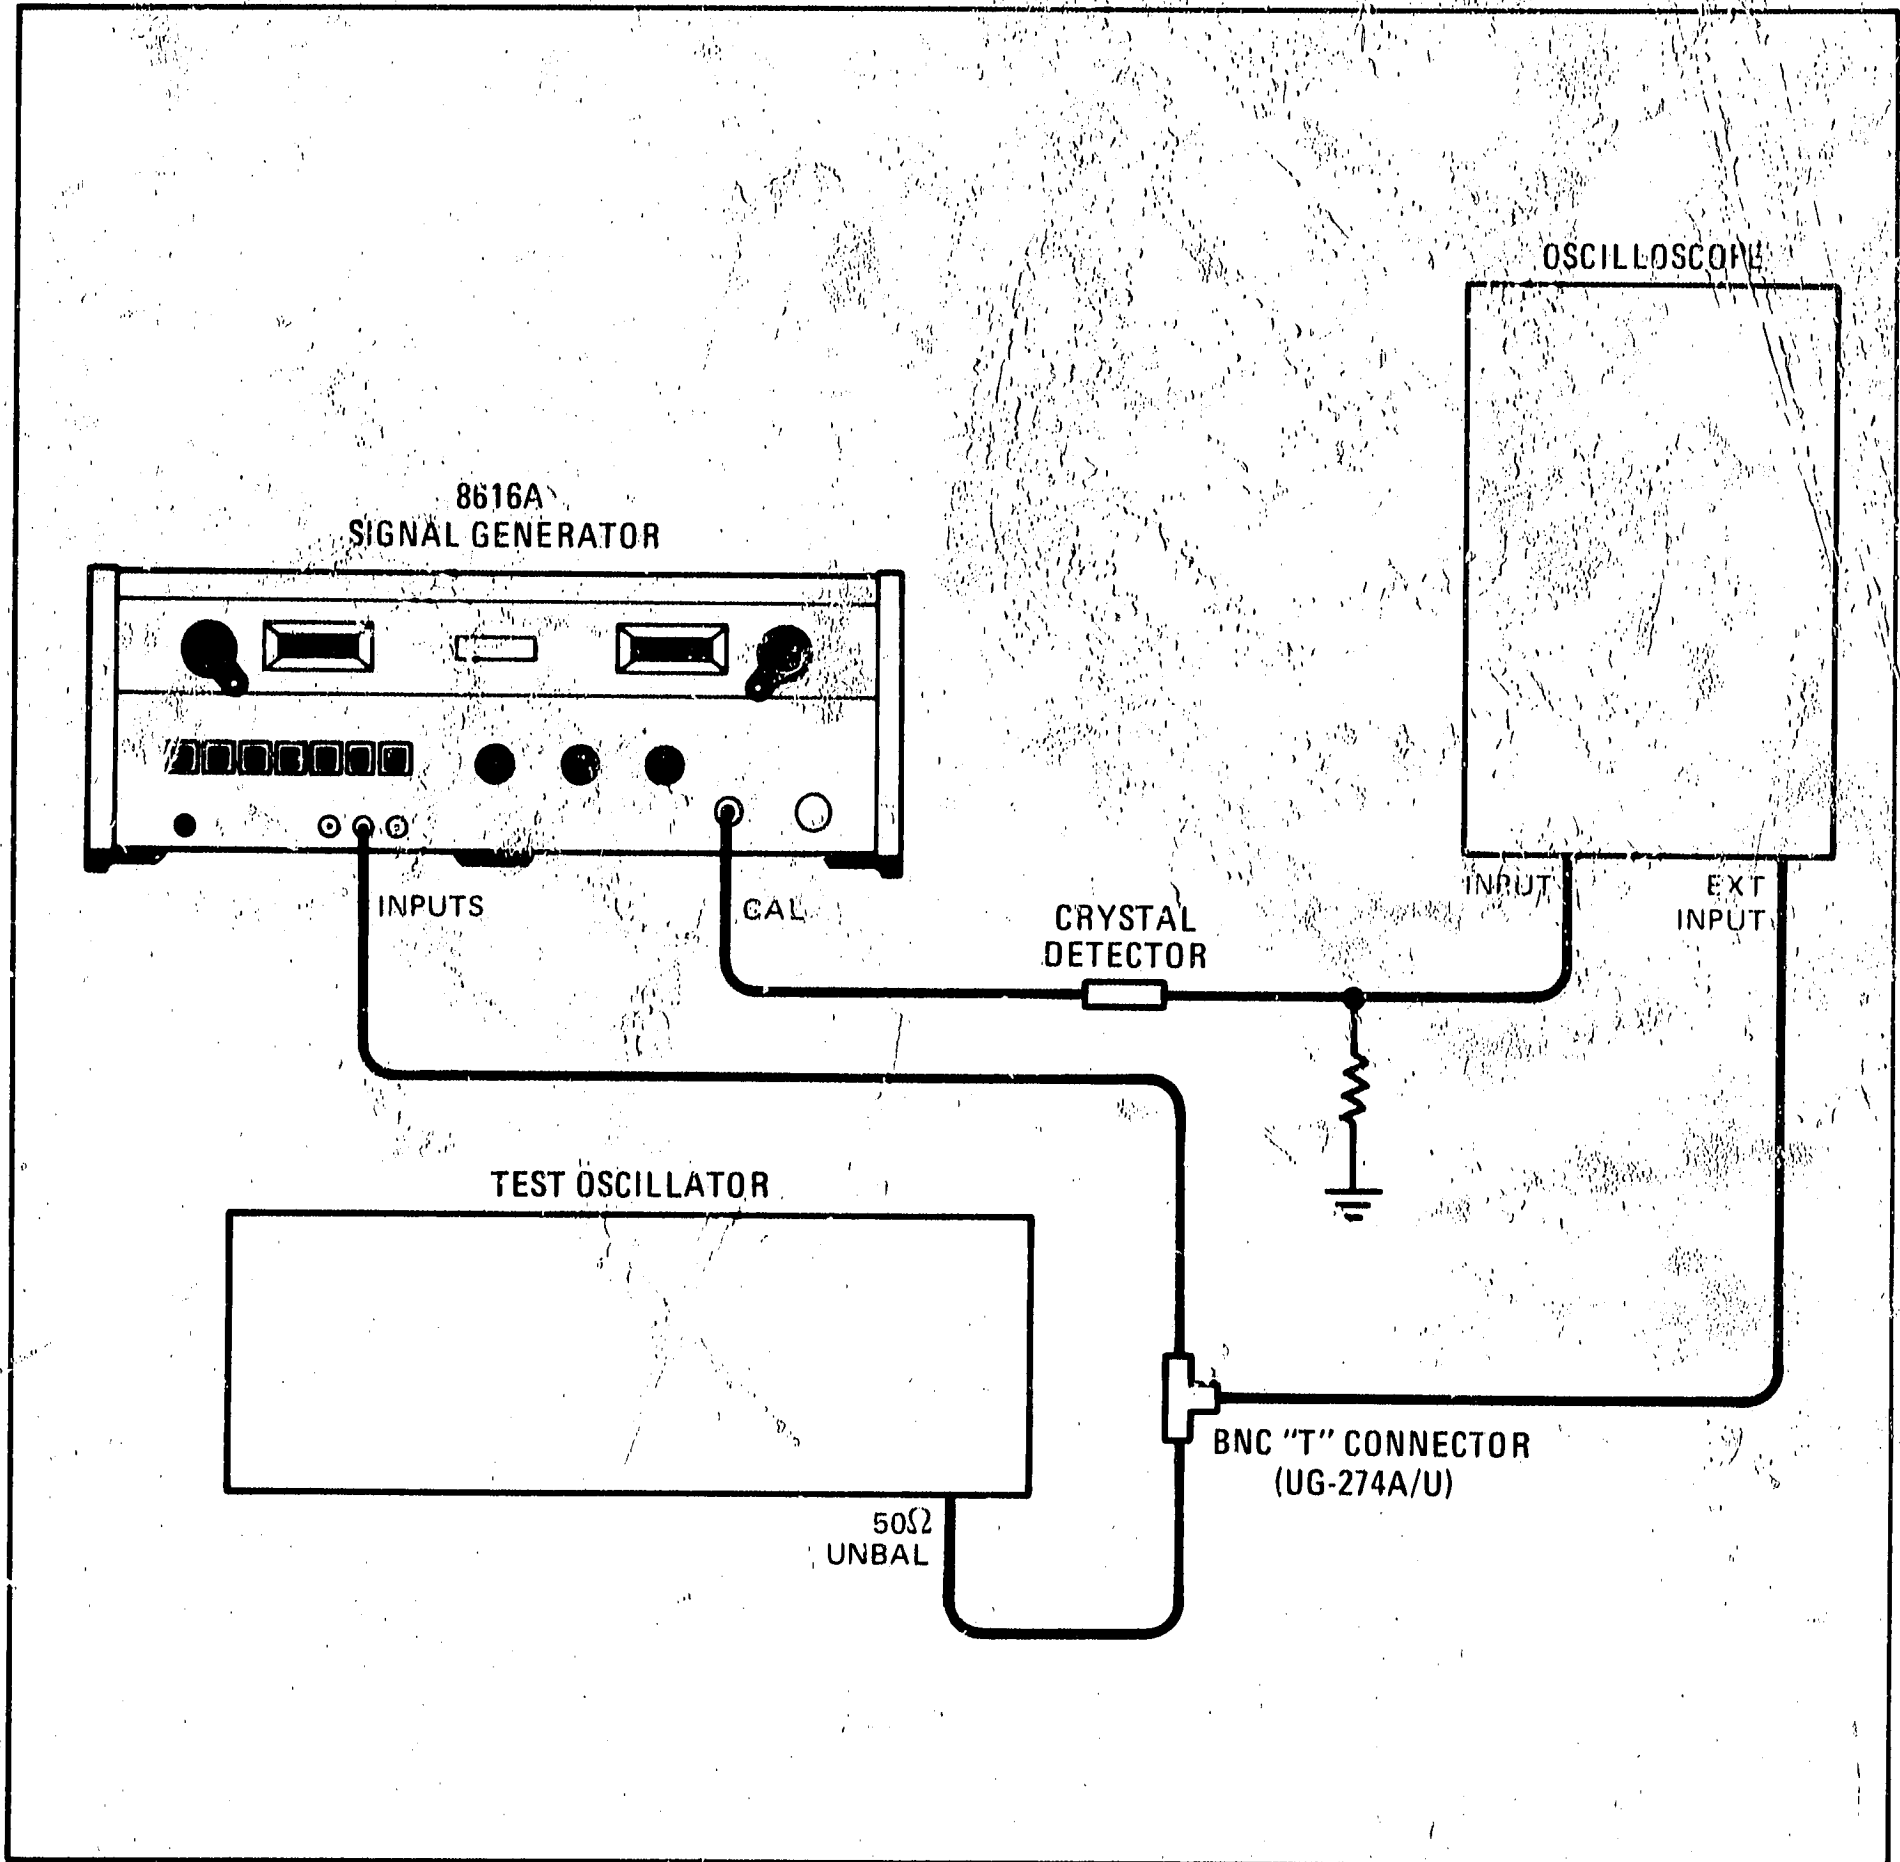

Figure 5-10. External AM Check
a. Connect instruments as shown in Figure 5-10